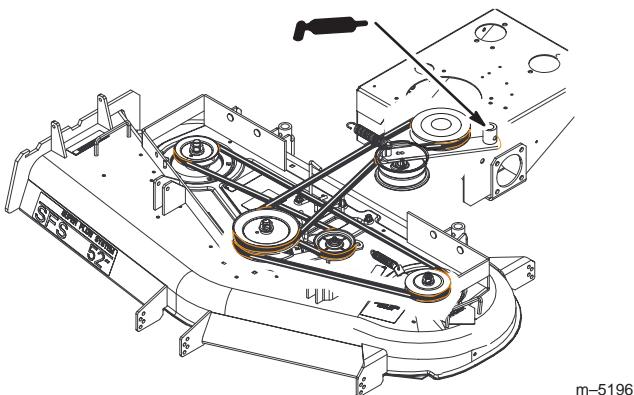

Figure 39
1. Grease the idler pulley pivots (Fig. 39).